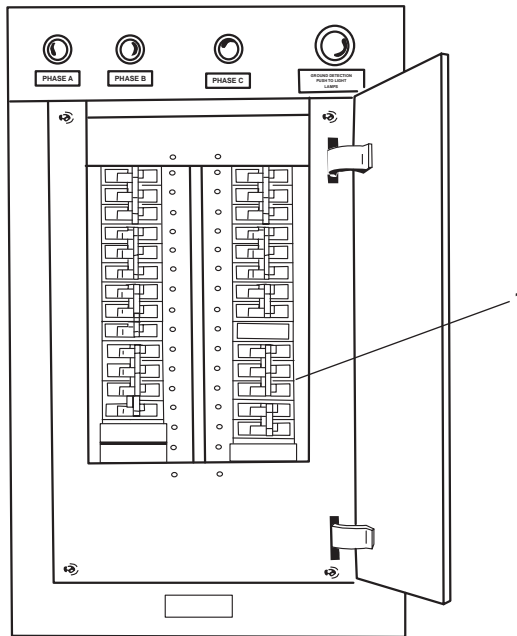

Figure 3. 120V Emergency Load Center Distribution Panel
1. In the Emergency Diesel Generator (EDG) room, at the 120V emergency load center distribution panel, set to ON the GENERAL ALARM BATTERY CHARGER. circuit breaker (figure 3, item 1).